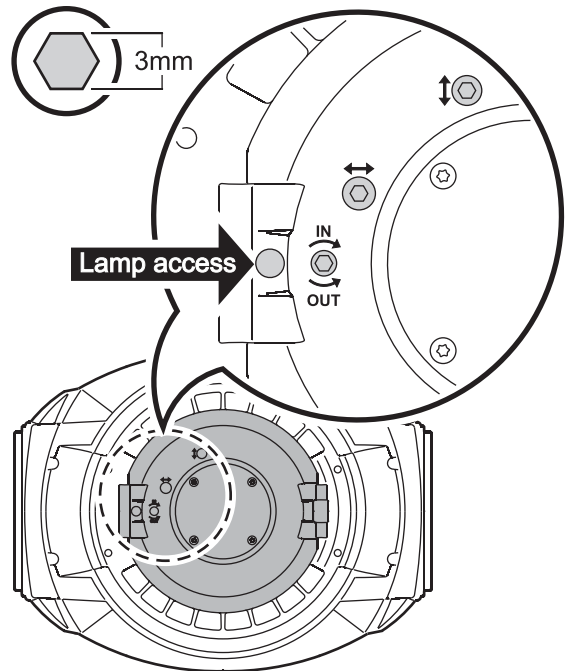

Figure 3: Lamp adjustment screws
4. See Figure 3. Screw the three lamp adjustment screws in or out to obtain the most even beam.